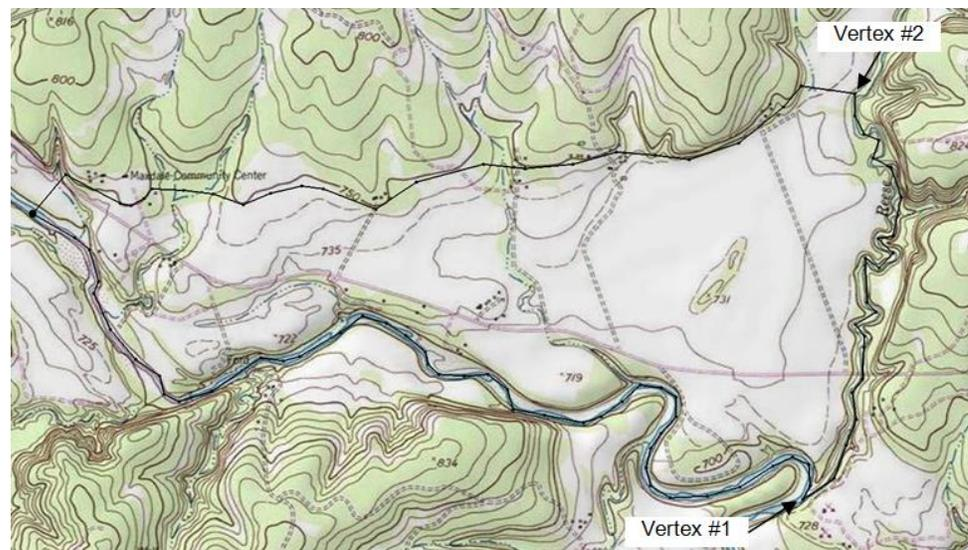

Figure 4 Convert vertices to nodes
2. Using the **Select Vertices** tool, select the two vertices shown in Figure 4 by selecting one of them, then holding down the *Shift* key and selecting the other one. Vertex #1 is located at the junction of the two rivers. Vertex #2 is located at the top of the river on the east side of the model.